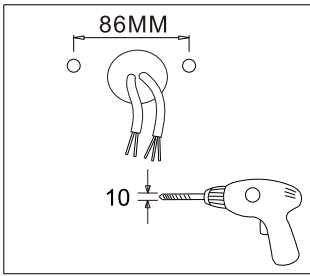

Figure 4
1. Drill holes on the wall as shown (Figure 4)